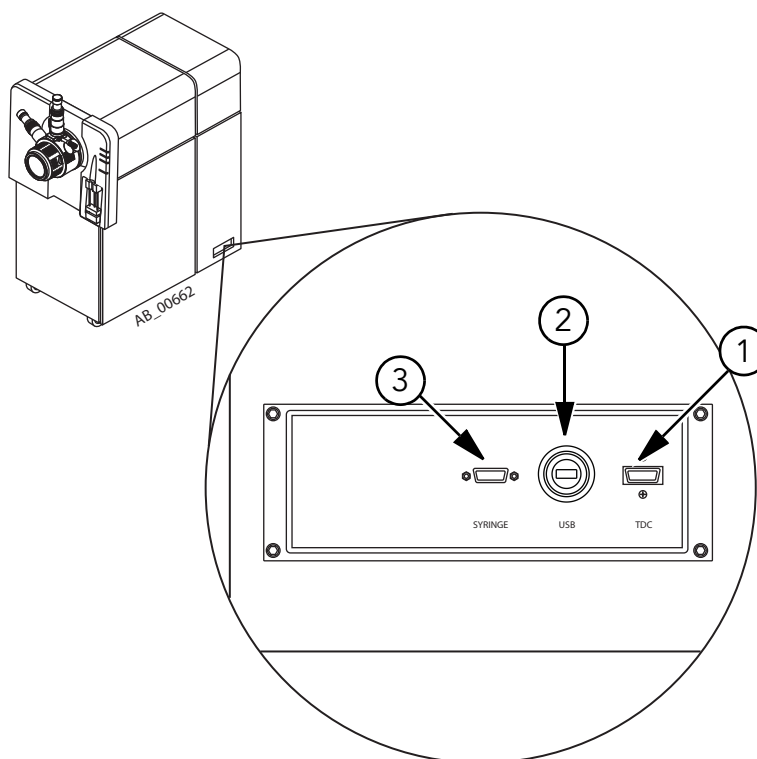
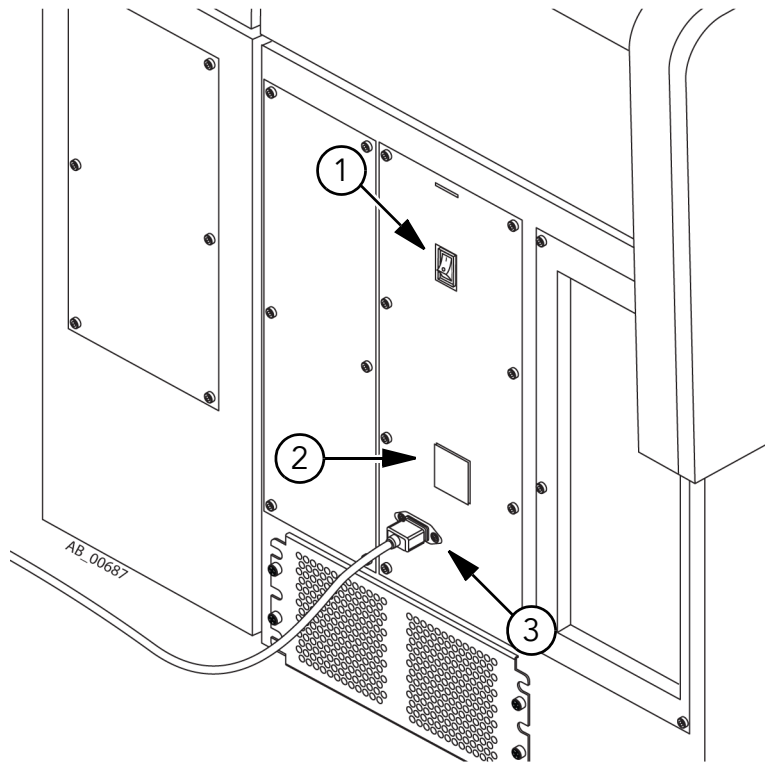

Figure 1-2 Connections on the TDC bulkhead
Figure 1-4 Electrical connections
Figure 1-2 to Figure 1-4 show the locations of the mass spectrometer connections.
4. Remove the cover on the circuit breaker switch on the left side of the mass spectrometer, when viewed from the front (see Figure 1-4 on page 10), and then turn on the circuit breaker.
6. Turn on the instrument power switch, located on the left side of the mass spectrometer. See Figure 1-4 on page 10.
5. Turn off the instrument power switch on the left side of the instrument (see Figure 1-4 on page 10).
8. Remove the cover on the circuit breaker switch on the left side of the mass spectrometer (see Figure 1-4 on page 10), and then turn off the circuit breaker.